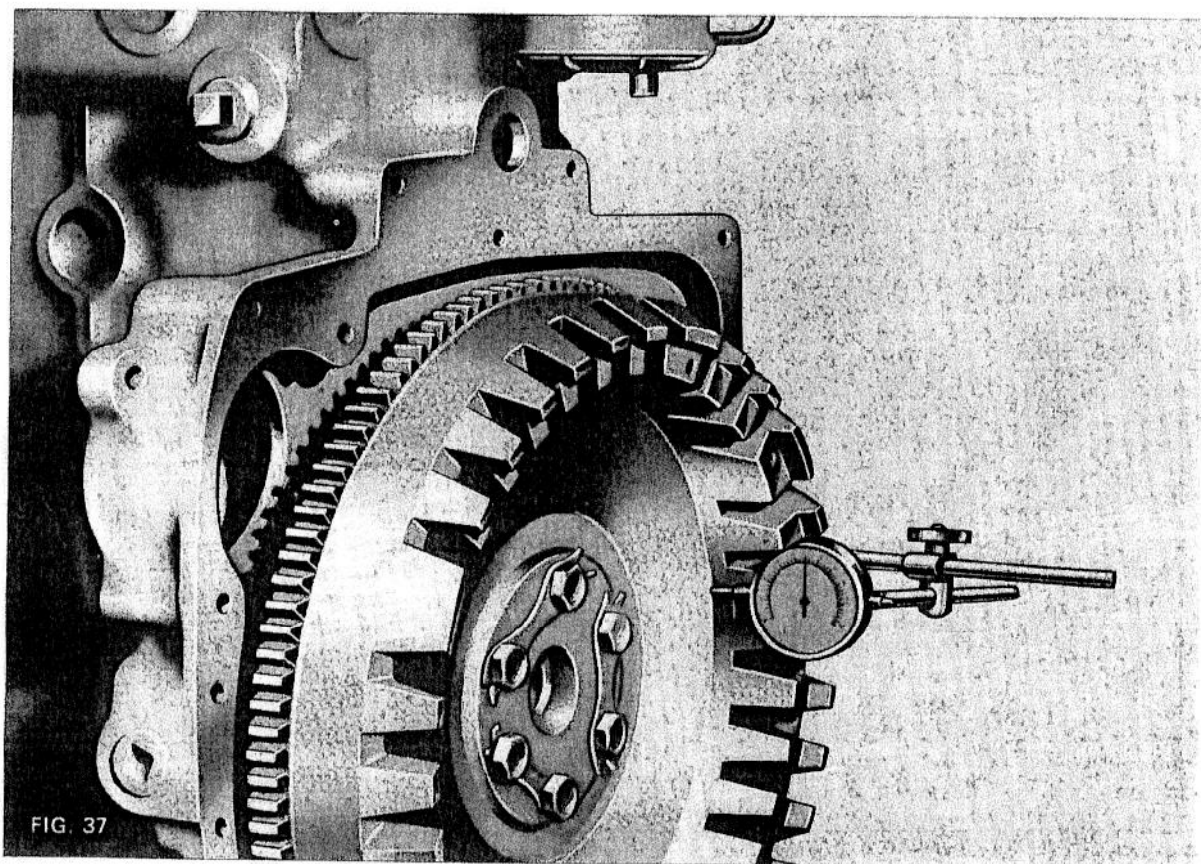

FIG. 37
4. When checking the run-out on the clutch face as shown in Fig. 37 the total indicator reading should not exceed .001 in. (.025 mm.) per inch (25.4 mm.) of radius from the flywheel centre to the stylus of the dial indicator. It is advisable to apply pressure to the centre of the flywheel to eliminate crankshaft end float.